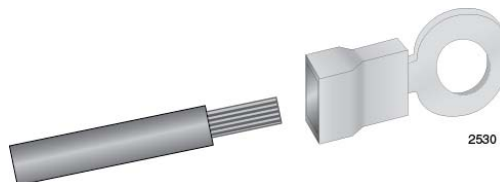

Figure 128. Attaching the Stranded Grounding Wire to the Grounding Terminal
2. Insert the grounding wire into the grounding terminal provided with the power supply and use a crimping tool to secure it to the grounding terminal. See Figure 128,